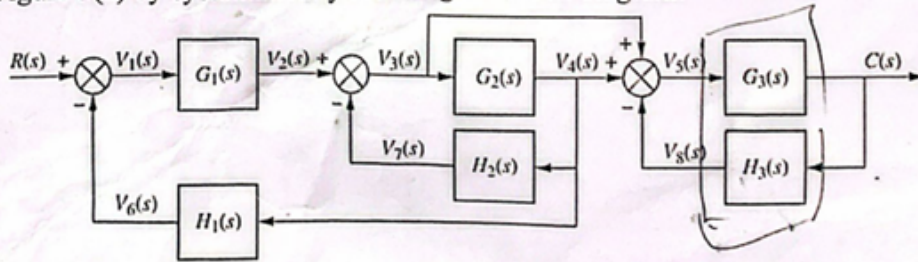

Figure 3 (a)
a) Design the equivalent single transfer function of the control system shown in Figure 3(a) by systematically reducing the block diagram.